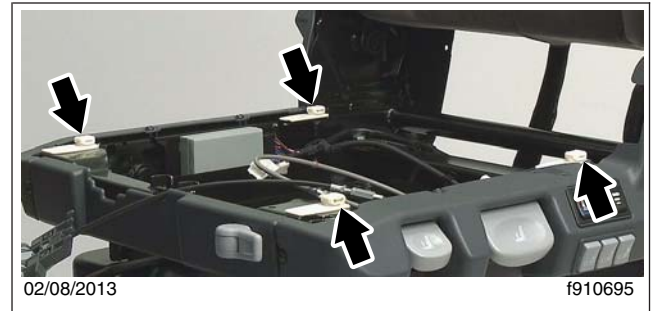

Fig. 2, Slider Tabs
5. Clean the seat cushion slider tabs; See Fig. 2.